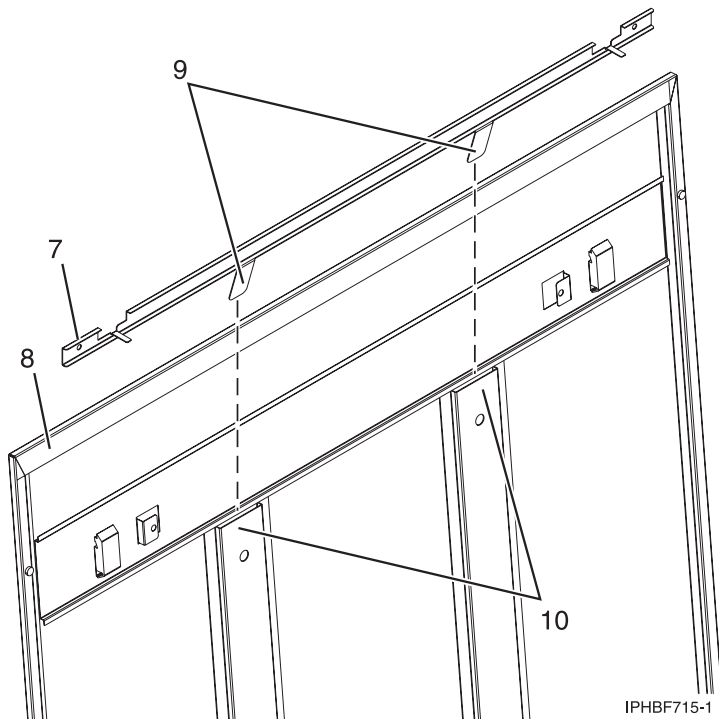

Figure 27. Installing a security slide bar
- b. With the flat side of the slide bar rail (7) in Figure 27 on page 30, facing the inside of the cover panel (8), insert the two tabs (9), on the slide bar rail into the two vertical support channels (10) on the side cover panel.